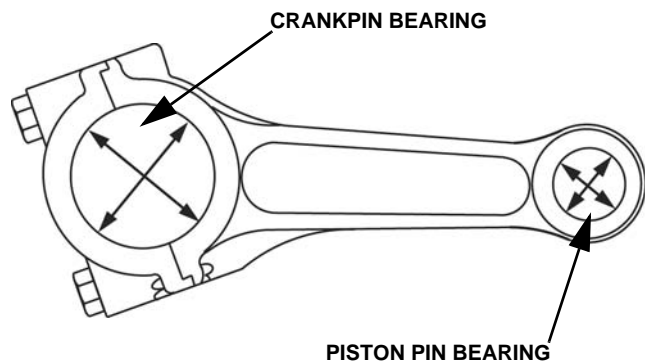

Fig. 79
2. Check connecting rod bearings, Fig. 79.